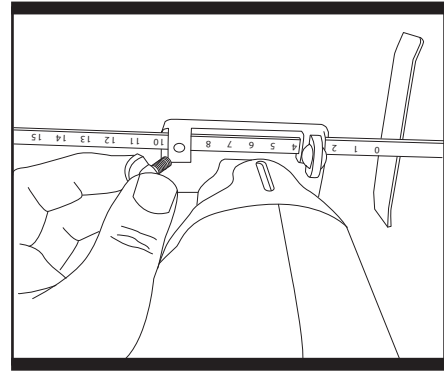

Fig. 2
2. Using the parallel guide (Fig. 2)